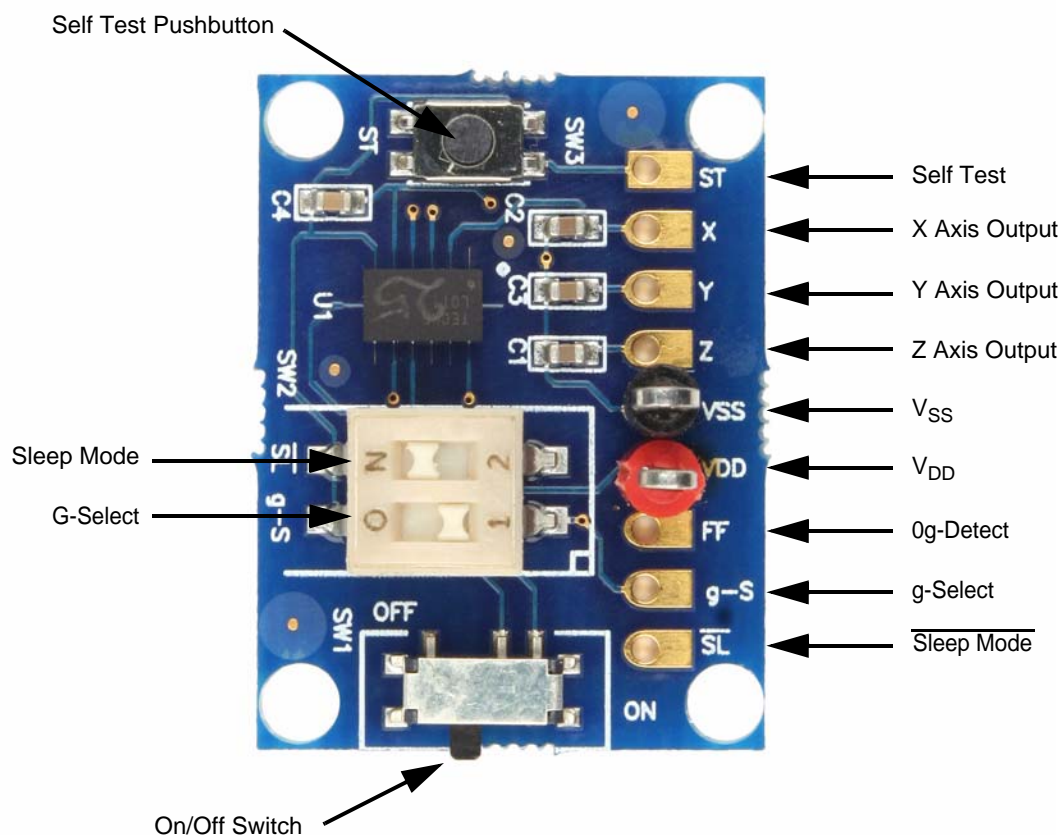

Figure 4. Evaluation Board Components
2. Turn the side on/off switch into the “on” position as shown in Figure 4. The on/off switch provides power to the accelerometer and helps preserve battery life if a battery is being used as the power source. Therefore SW1 must be set toward the “on” position for the accelerometer to function.
3. Using a thin pointed tool turn the sleep mode dipswitch (SW2) to the “on” position as shown in Figure 4, or you can also power the sleep mode using the solder pad available. This enables the device. A low signal (0) will bring the board into sleep mode which puts it in a power saving mode. In this state there will be no X, Y or Z outputs on these output solder pads. For normal device operation though the sleep mode must be in the “on” position. This will activate the device showing X, Y and Z outputs on the X, Y and Z output pads.
6. The g-Select is shown in Figure 4 (SW2) in the lower of the two possible g-modes. You can also use the solder pad “G\_S” to access and change the g-mode.